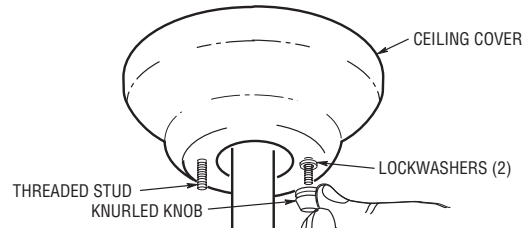

Figure 16
- 4. Lift the ceiling cover up to the threaded studs and turn until studs protrude through the holes in the ceiling cover (Figure 16).
- 5. Secure the ceiling cover in place by sliding lockwashers over the threaded studs and installing the two knurled knobs (supplied). (Figure 16.) Tighten the knurled knobs securely until the ceiling cover fits snugly against the ceiling and the hole in the ceiling cover is clear of the downrod. Your fan is now wired to be turned on and off from the fan switch.